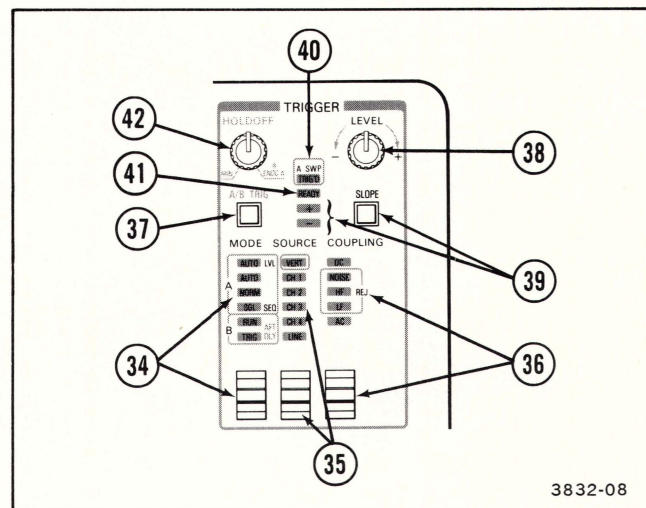

Figure 3-5. Trigger controls and indicators.
Refer to Figure 3-5 for items 34 through 42.